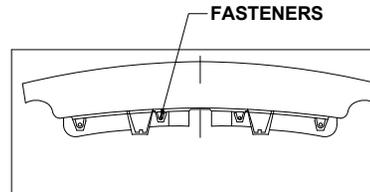

FIGURE 1
- a. Remove (2) fasteners with a T20 Torx bit from the rear of the vehicle. (See Figure 1)